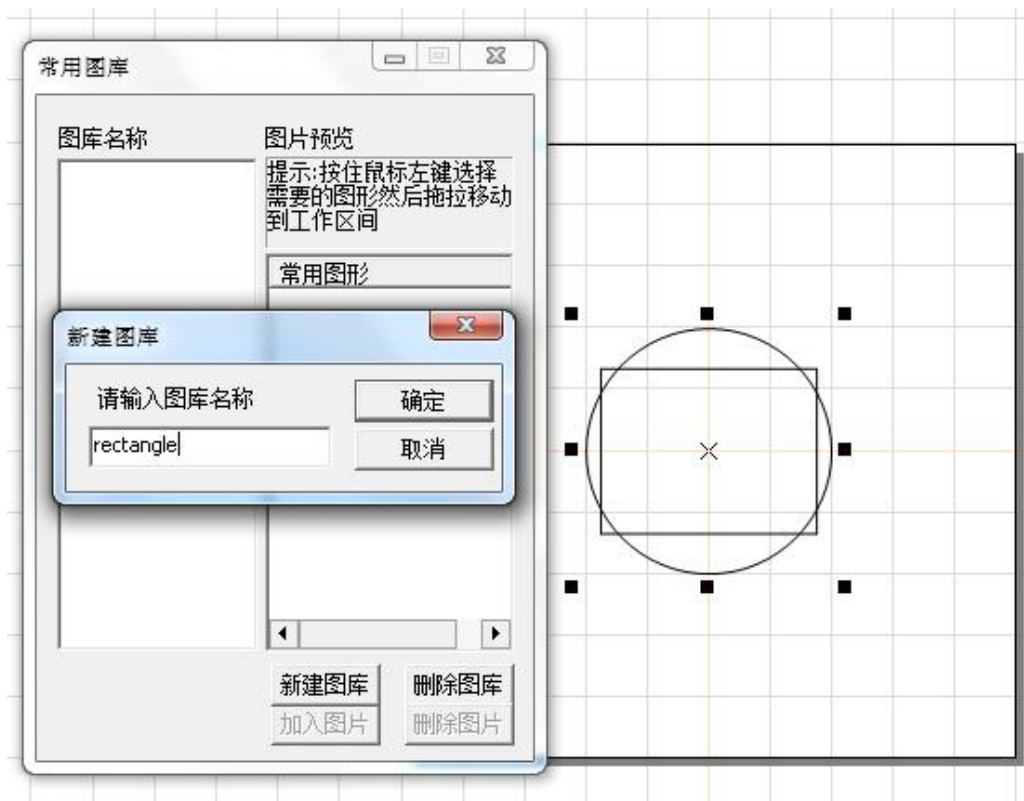

Fig.2-12 Images Library
- Infrequent use parameter editing enable : When this item is not checked, the infrequently used parameter items in the main interface-Marking parameter -advanced options are grayed out and cannot be edited, as shown in Figure 2-12. Check this item r to enable editing.